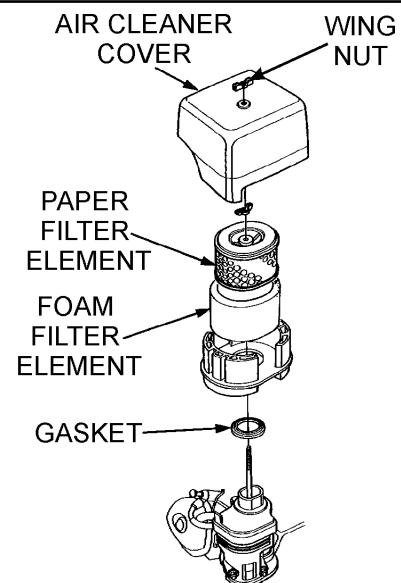

Figure 23. Engine Air Cleaner
- Remove the air cleaner cover and foam filter element as shown in Figure 23.
- Tap the paper filter element (Figure 23) several times on a hard surface to remove dirt, or blow compressed air [not exceeding 30 psi (207 kPa, 2.1 kgf/cm²)] through the filter element from the air cleaner case side. **NEVER** brush off dirt. Brushing will force dirt into the fibers. Replace the paper filter element if it is excessively dirty.